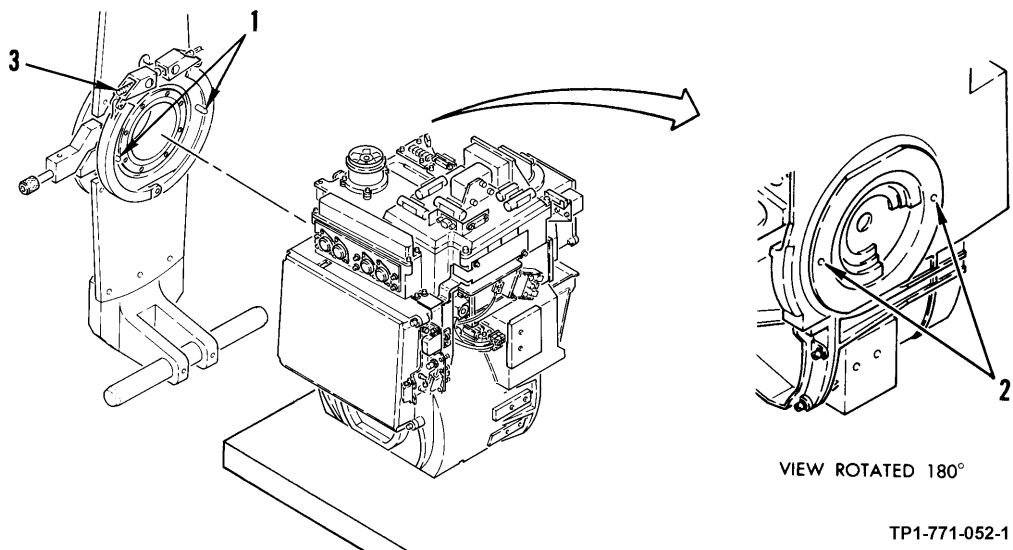

Figure 2-21. Mounting Channel Balance Adapter to TADS NSA
- (1) Place TADS NSA on edge of workbench tabletop with mounting flange facing operator.
- (2) Aline channel balance adapter guide pins (1, figure 2-21) with guide pin holes (2) on TADS NSA mounting flange. Ensure that adapter is oriented with clamp assembly bolt (3) in the up position, as shown. Mount adapter to TADS NSA.
- (3) Ensure that clamp guide pin is in guide pin alinement hole of adapter and that adapter mounting surface is flush against TADS NSA mounting surface.